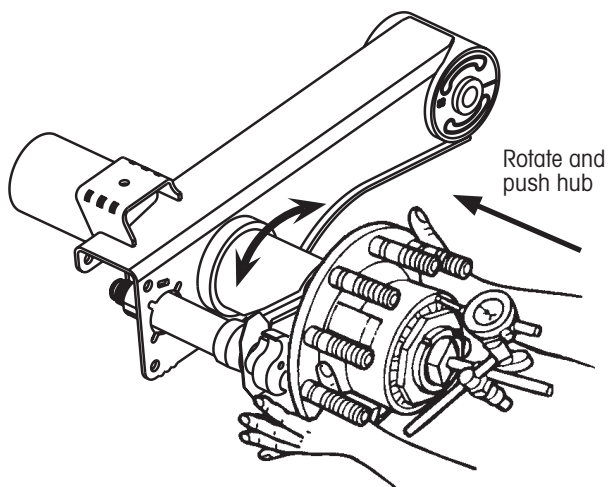

Figure 6: Checking inward end-play
**NOTE:** A reasonable assessment can be performed without removing tires and rims. However, this procedure is best performed with hub only as shown in Figure 6.
7. **Grasp** hub as shown in Figure 6, and rotate the hub in both directions while **pushing** the hub inward until the dial indicator reading remains constant. **Record** reading.